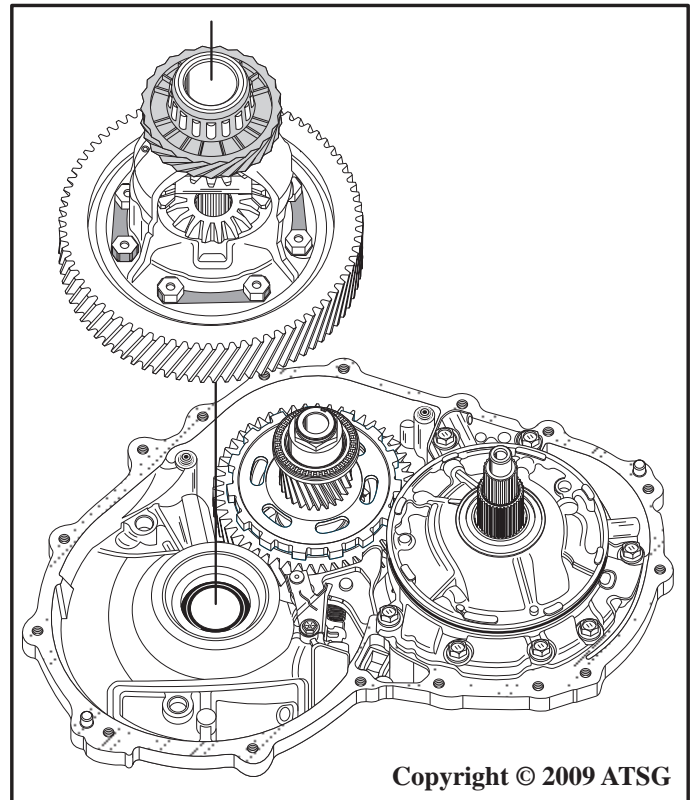

Figure 27
31. Remove the final drive assembly by lifting straight up as shown in Figure 27.